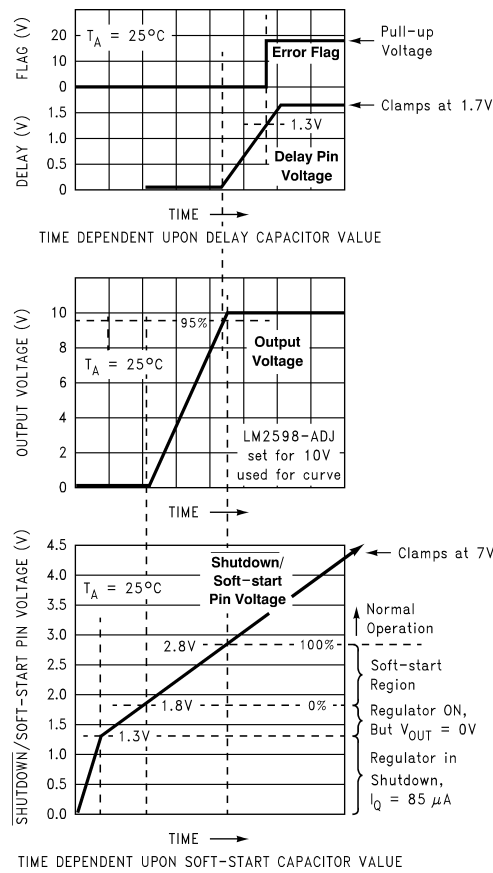
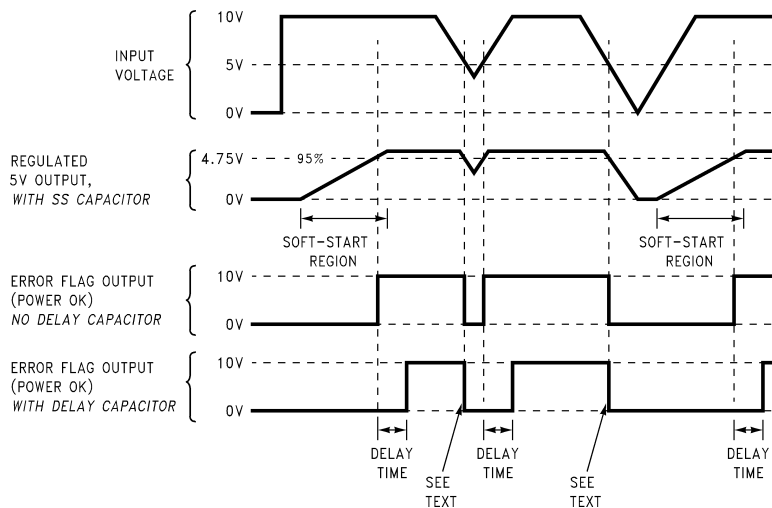

Figure 28. Soft-start, Delay, Error, Output
Figure 29. Timing Diagram for 5-V Output
A capacitor on this pin provides the regulator with a Soft-start feature (slow start-up). When the DC input voltage is first applied to the regulator, or when the Shutdown/Soft-start pin is allowed to go high, a constant current (approximately 5 μ A) begins charging this capacitor). As the capacitor voltage rises, the regulator goes through four operating regions (See the bottom curve in Figure 28).
3. Soft-start region: When the $\overline{SD/SS}$ pin voltage is between 1.8 V and 2.8 V at 25°C, the regulator is in a Soft-start condition. The switch (Pin 1) duty cycle initially starts out very low, with narrow pulses and gradually get wider as the capacitor $\overline{SD/SS}$ pin ramps up towards 2.8 V. As the duty cycle increases, the output voltage also increases at a controlled ramp up. See the center curve in Figure 28. The input supply current requirement also starts out at a low level for the narrow pulses and ramp up in a controlled manner. This is a very useful feature in some switcher topologies that require large start-up currents (such as the inverting configuration) which can load down the input power supply.
Note: The lower curve shown in Figure 28 shows the Soft-start region from 0% to 100%. This is not the duty cycle percentage, but the output voltage percentage. Also, the Soft-start voltage range has a negative temperature coefficient associated with it.
Provides delay for the error flag output. See the upper curve in Figure 28, and also refer to timing diagrams in Figure 29. A capacitor on this pin provides a time delay between the time the regulated output voltage (when it is increasing in value) reaches 95% of the nominal output voltage, and the time the error flag output goes high. A 3- μ A constant current from the delay pin charges the delay capacitor resulting in a voltage ramp. When this voltage reaches a threshold of approximately 1.3 V, the open collector error flag output (or power OK) goes high. This signal can be used to indicate that the regulated output has reached the correct voltage and has stabilized.